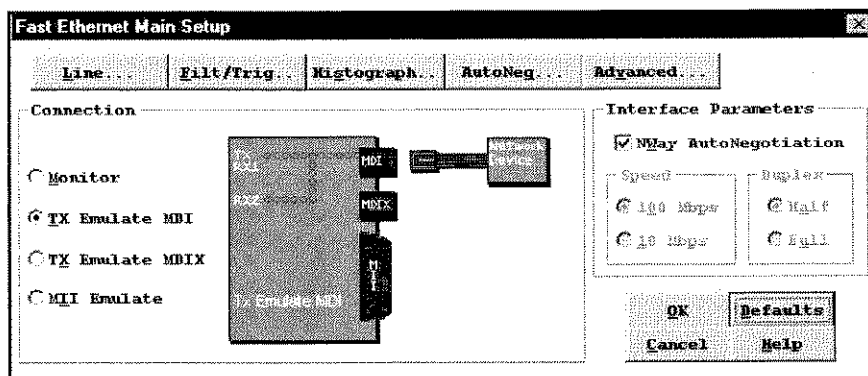

Figure 2-4. Fast Ethernet Main Setup dialog box
2. From the Fast Ethernet Main Setup dialog box (Figure 2-4), you can disable **NWay AutoNegotiation**, select the **Connection** mode, or choose a command button to make changes to other setup options.